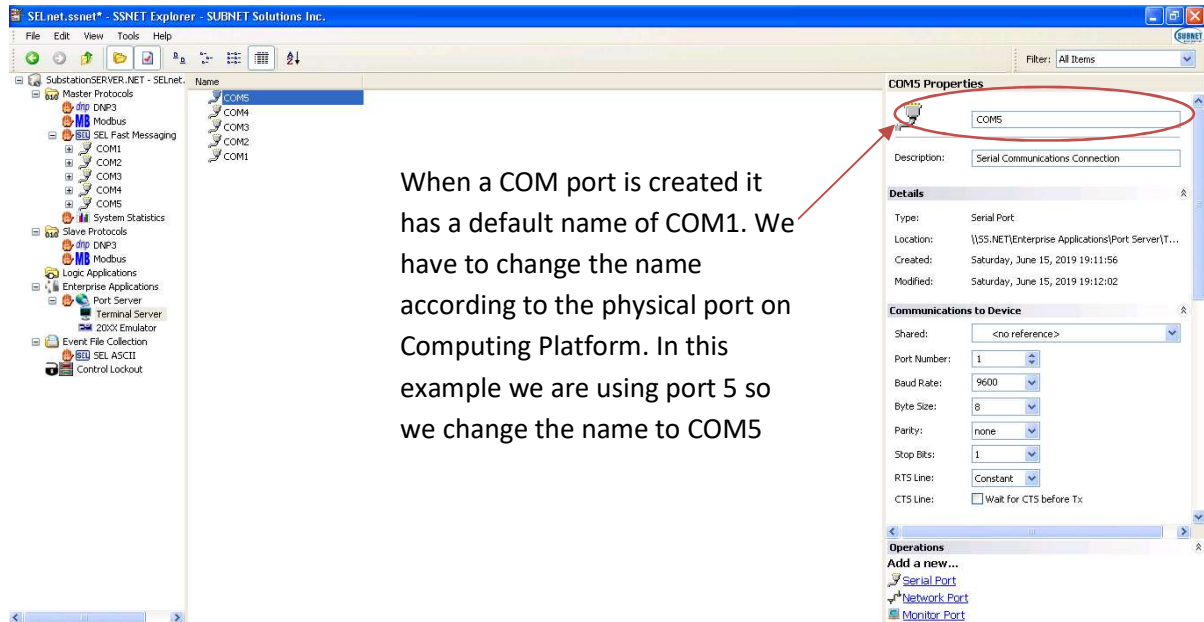

Figure 4.17 Changing the name of newly defined COM port
- 8) Rename the newly created COM port to COM5 (same name as given in step 4). See Figure 4.17.